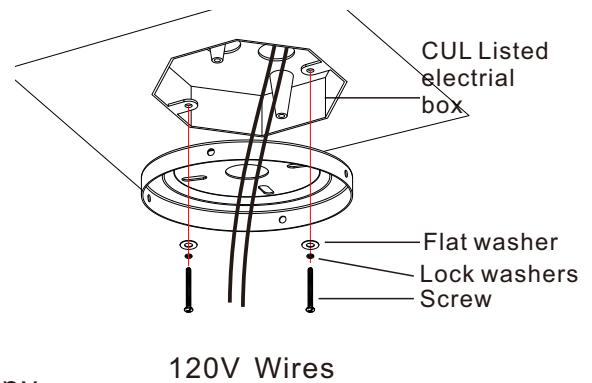

Figure 8
Step 2. Pass the 120-volt supply wires through the center in the ceiling hanger bracket as shown in (Fig. 8)